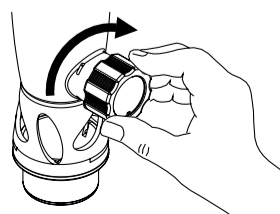

fig. 2
- Bring the ball valve back into vertical position (close) with a 90° turn to the left (fig. 2).